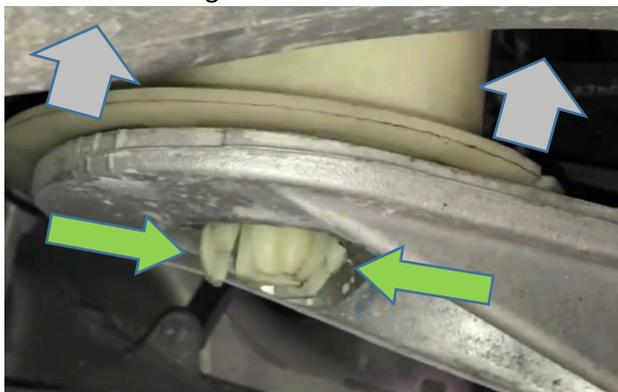

fig.3
6. With the air spring fully deflated, compress the tabs inwards (green arrows) on the bottom of the air spring (fig.3). Once compressed pull up the lower section of the air spring to release it from its mounting.